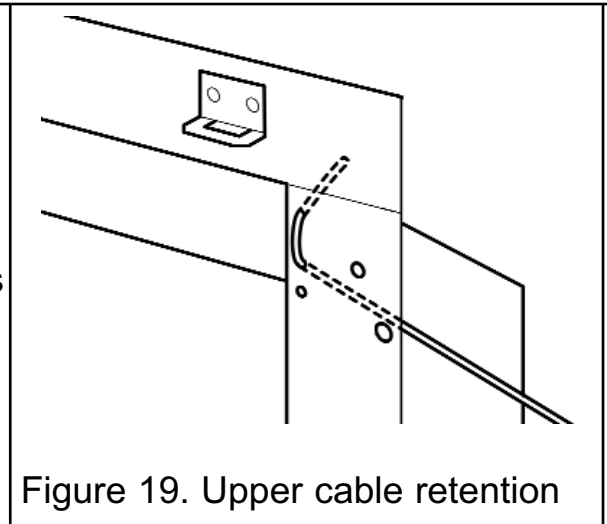

Figure 19. Upper cable retention
5. The hotbox has two holes at each side of the spillage plate. Insert one end of each cable (one cable each side) from the back through the lower of the two holes and return the end through the upper of the holes (See figure 19). Give the cables a pull so that they grip against the hotbox flanges.